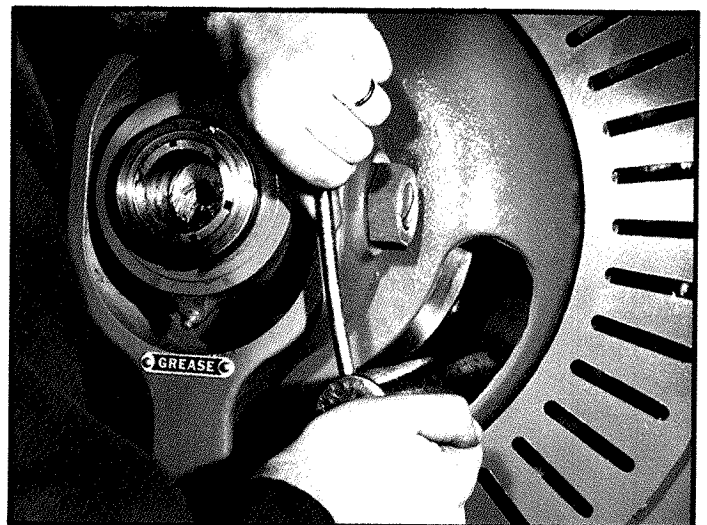
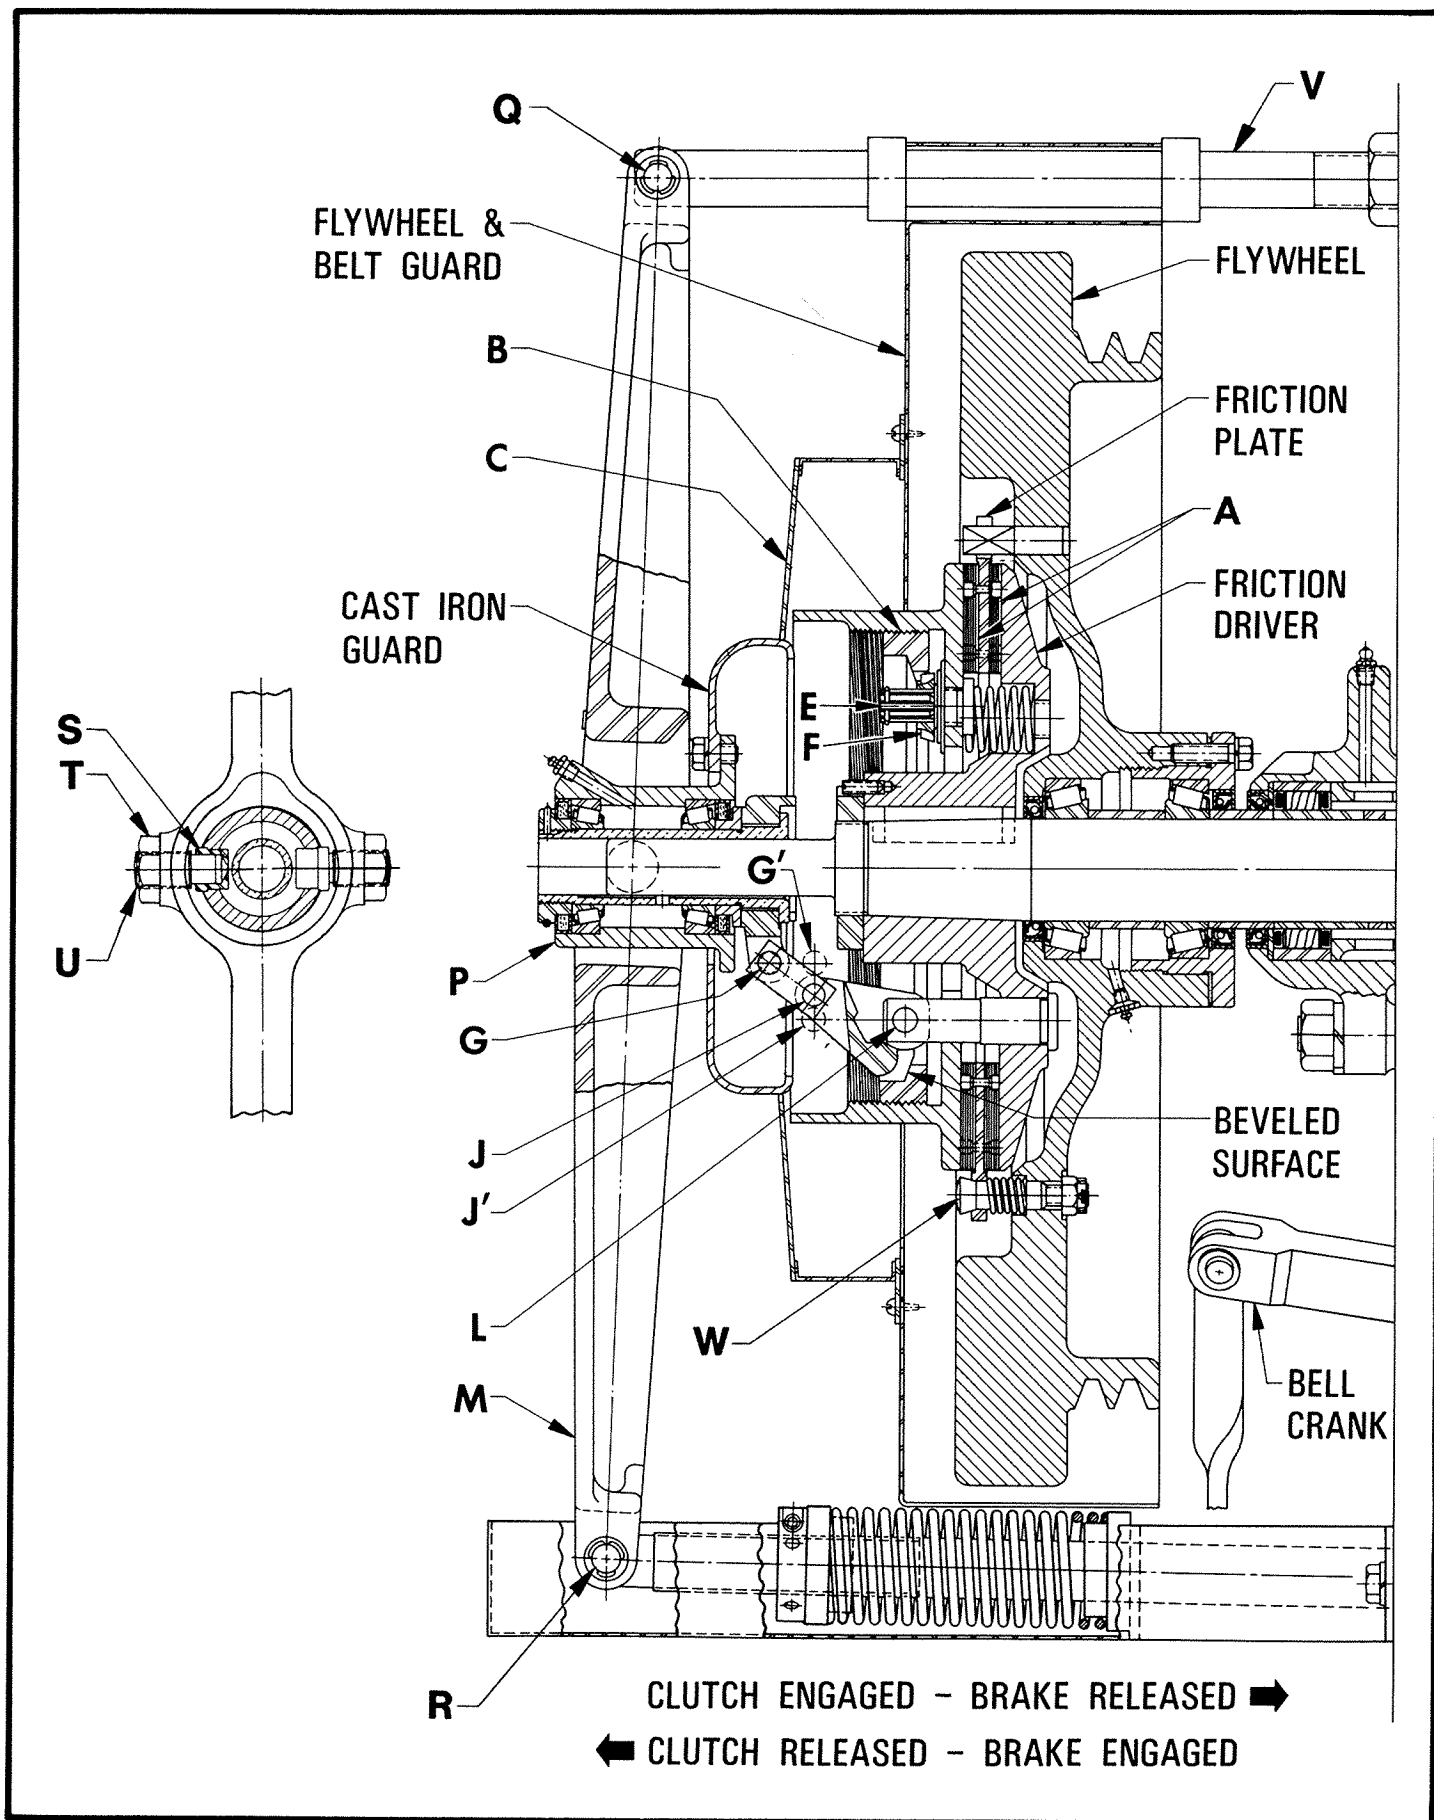

FIGURE 83
FIGURE 81
The toggle type clutches on 4 through 36 Series CINCINNATI Press Brakes are designed to go "over center" to transmit the torque required for the rated bending loads. Figure 81 shows the clutch in the disengaged position. The clutch is "on center" when bolt "G" moves to position G' and bolt "J" moves to position J'. Bolt positions G', J' and "L" form a 90° angle. Bolt "G" then moves .007" to .012" beyond position G' to go "over center".
Engage the clutch with palm buttons or footswitch. Another person should hold lower end of clutch lever "M" (Figure 81) and shake it in front to rear direction of press brake. The adjustment of stop screw No. 1 is correct if the lever moves freely when the screw contacts either the housing or the ball crank.
2. Stud "E" and lock gear "F" (Figure 81) must be visible and accessible through the circular slot in the front face of cast iron guard. See Figure 82. If they are not accessible, jog the drive motor with the "START" and "STOP" buttons to slowly rotate the flywheel. Then jog the clutch to line-up the stud and lock gear with the circular opening.
4. Place the geared end of the clutch adjustment wrench (Figure 82) through the circular slot so that stud "E" enters the pilot hole in end of the wrench. With a 1/2" diameter rod in end of wrench, push the lock gear "F" towards the flywheel (Figure 83). This will disengage it from the internal gear teeth on adjusting nut "B" (Figure 81). The external gear teeth
3. Slowly release the force (or method) used to engage the clutch. Observe the movement of clutch lever "M" (Figure 81). The clutch lever and the clutch should snap-out to the disengaged position.